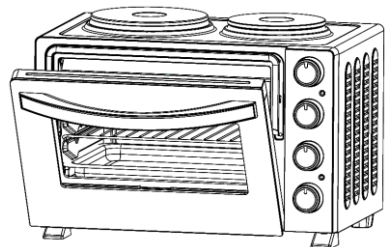

Fig.12
9. If grilling or toasting leave the oven door ajar (Fig. 12).